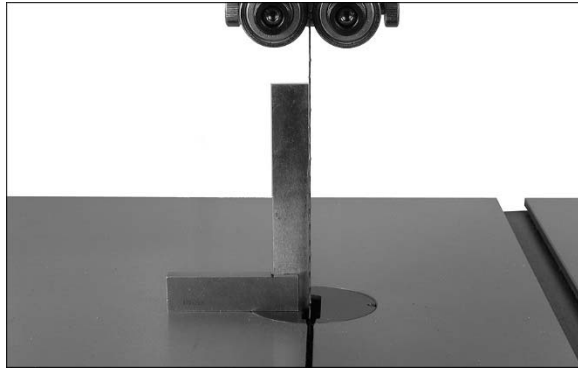

Figure 7-5
2. Use a square (Figure 7-5) placed on table and against blade to verify that table is 90 degrees to blade.
3. If an adjustment is necessary, loosen lock handle (D). Tilt table until it is square to blade; then retighten lock handle.
4. Loosen lock nut (F1) and turn table stop bolt (F) until it contacts table. Tighten lock nut to hold table stop in place. When tightening the nut hold the table stop bolt in place with a wrench to prevent movement.